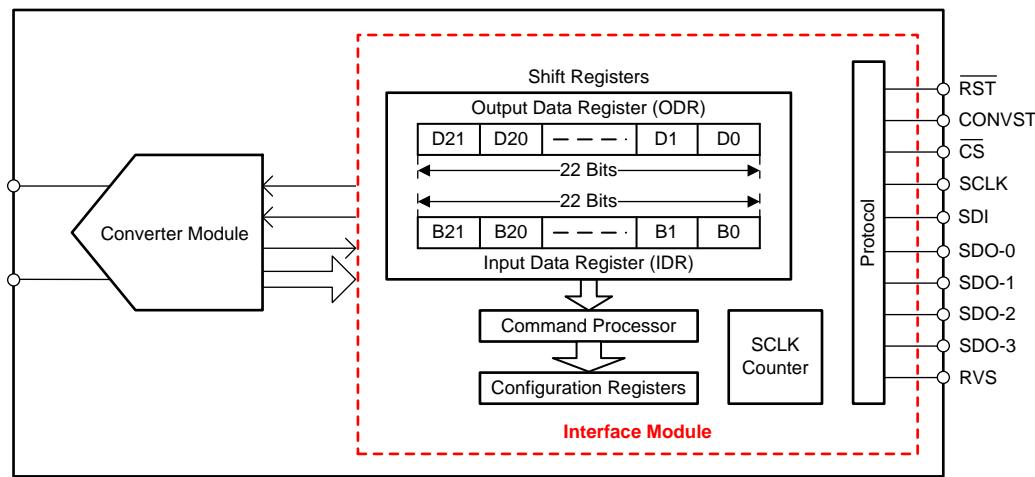
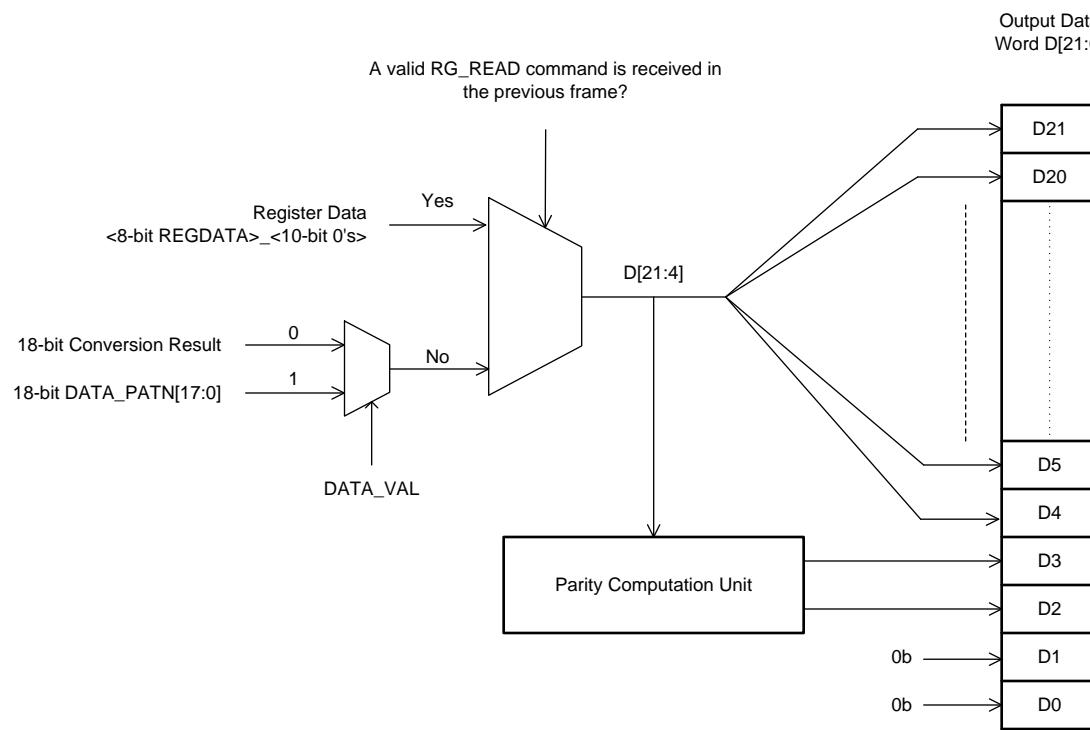
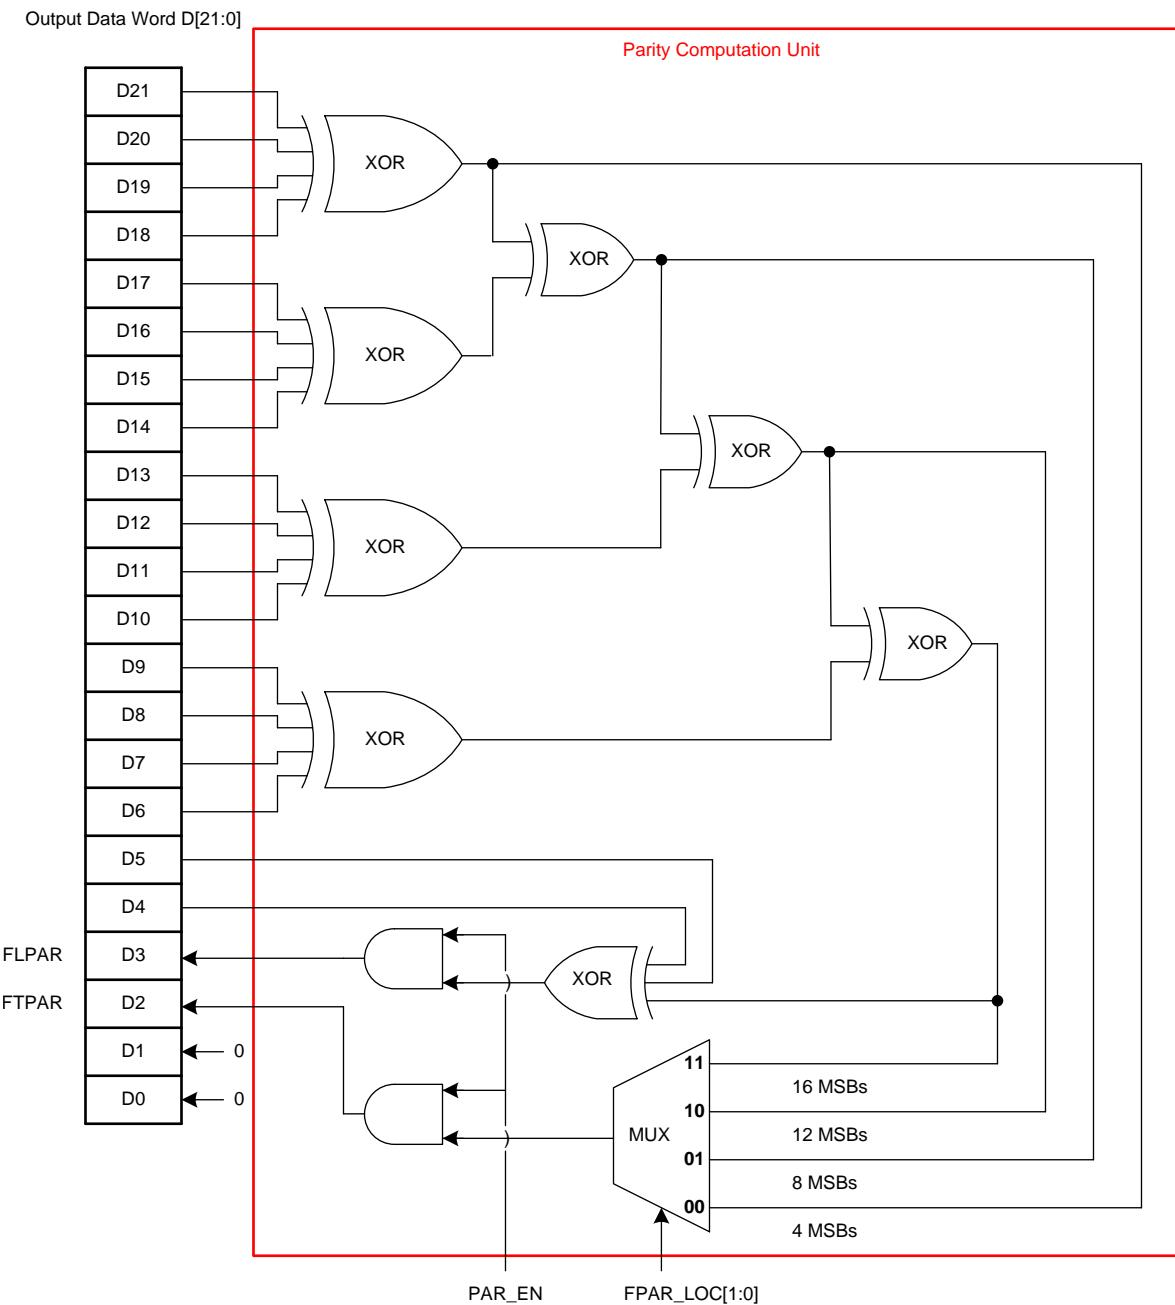
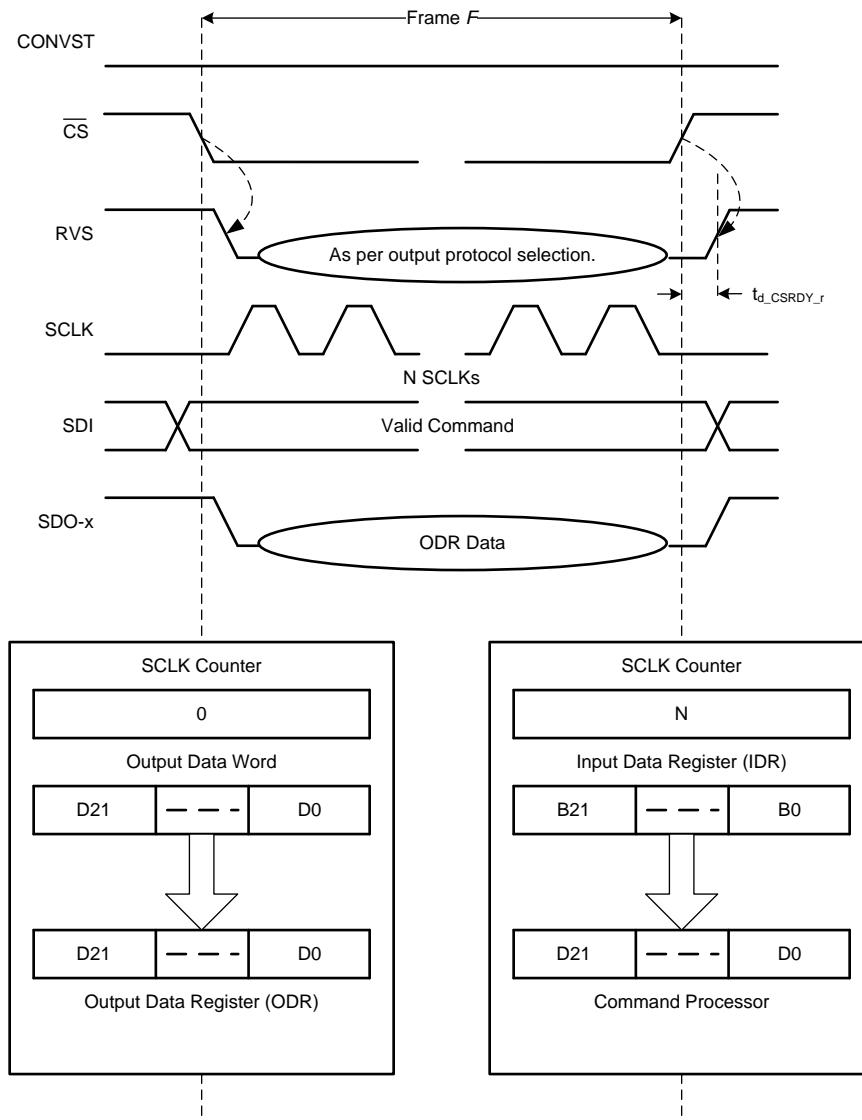

Figure 37. Interface Module
Figure 41. Output Data Word (D[21:0])
Figure 42. Parity Bits Computation
Figure 43. Data Transfer Frame
The interface module facilitates the communication and data transfer between the device and the host controller. As shown in Figure 37, the module consists of shift registers (both input and output), configuration registers, and a protocol unit.
Figure 41 shows the output data word. Figure 42 shows further details of the parity computation unit illustrated in Figure 41.
A data transfer frame between the device and the host controller is bounded between a $\overline{\text{CS}}$ falling edge and the subsequent $\overline{\text{CS}}$ rising edge. The host controller can initiate a data transfer frame (as shown in Figure 43) at any time irrespective of the status of the CONVST signal; however, the data read during such a data transfer frame is a function of relative timing between the CONVST and $\overline{\text{CS}}$ signals.
- The device takes control of the data bus. As shown in Figure 43, the 22-bit contents of the output data word (see Figure 41) are loaded into the 22-bit output data register (ODR; see Figure 37).
- The 22-bit input data register (IDR; see Figure 37) is reset to 000000h, corresponding to a NOP command.
- As illustrated in Figure 43, the 22-bit contents of the IDR are transferred to the command processor (see Figure 37) for decoding and further action.
In a short command frame, the write operation to the device is invalidated; however, the output data bits transferred during the short command frame are still valid output data. Therefore, the host controller can use such shorter data transfer frames to read only the required number of MSB bits from the 22-bit output data word. As shown in Figure 41, an *optimal read frame* for the ADS891xB devices must read only the 18 MSB bits of the output data word. The length of an optimal read frame depends on the output protocol selection; see the Protocols for Reading From the Device section for more details.